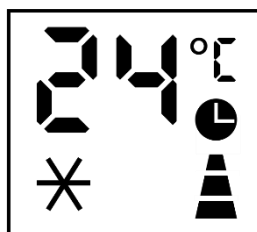

Fig 6
- Adjust the timer until the desired time is displayed. Wait for approximately 5 seconds and then the timer will be active. Only the TIMER symbol should be displayed on the screen (Fig. 6).